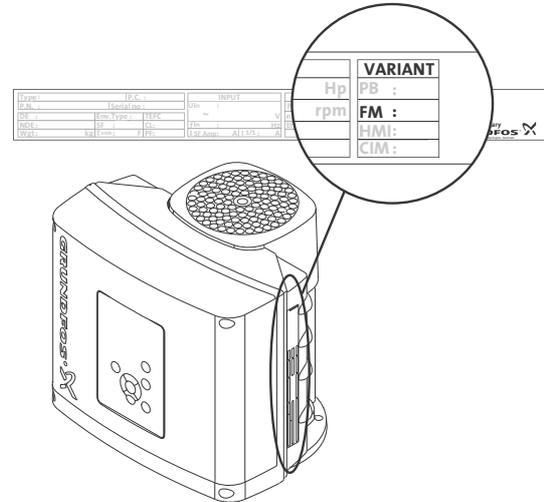

Fig. 8 Identification of functional module
The number of terminals depends on the functional module (FM). The fitted module can be identified on the motor nameplate. See fig. 8.